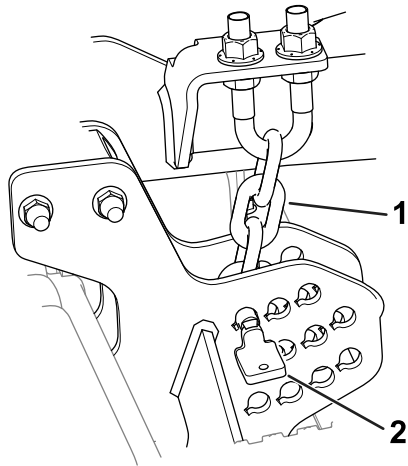

Figure 9
- Remove the pins that secure the height-of-cut chains to the rear of the cutting unit (Figure 9).
The pin should be installed in the lowest height-of-cut chain link. The chain (Figure 9) should not be twisted.